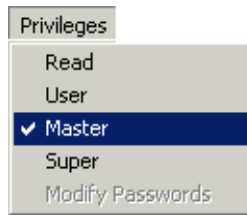
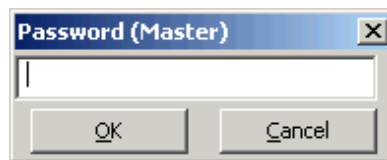

Figure 4-6: Privileges drop-down menu
Figure 4-7: Dialog box to enter the Master password
The **Privileges** drop-down menu at the top of the main VM600 MPSx Configuration Editor window (see Figure 4-6) is used to select the desired privilege level. Enter the appropriate password in the dialog box that appears (see Figure 4-7, which shows an example for the Master level).
- 2- Enter the existing Super level password in the dialog box (similar to Figure 4-7).